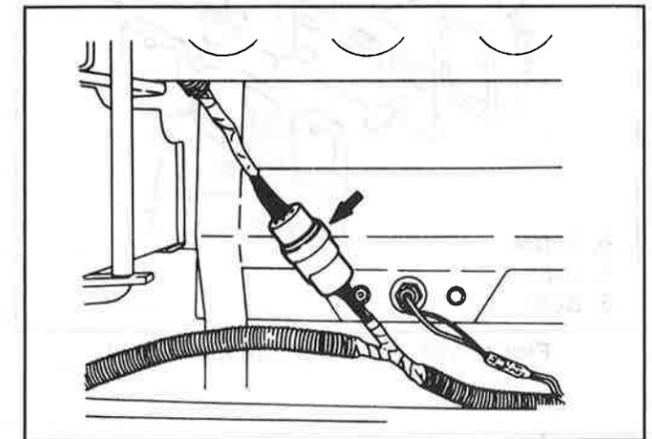

Figure 98. Disconnect The Connector
Remove or Disconnect (Figures 98 and 99)
1. Disconnect the connector (figure 98).